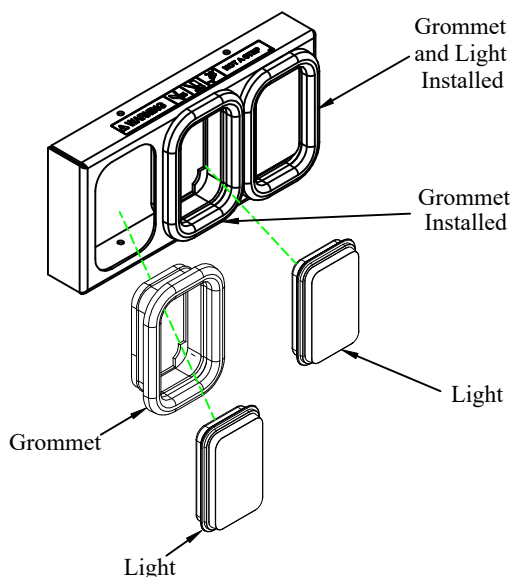

Figure 9: Light Kit Assembly
1. **Press** the light grommets into the large holes in the enclosures (Figure 9).
6. **Firmly Push** lights into installed rubber grommets until they are secured (Figure 9).